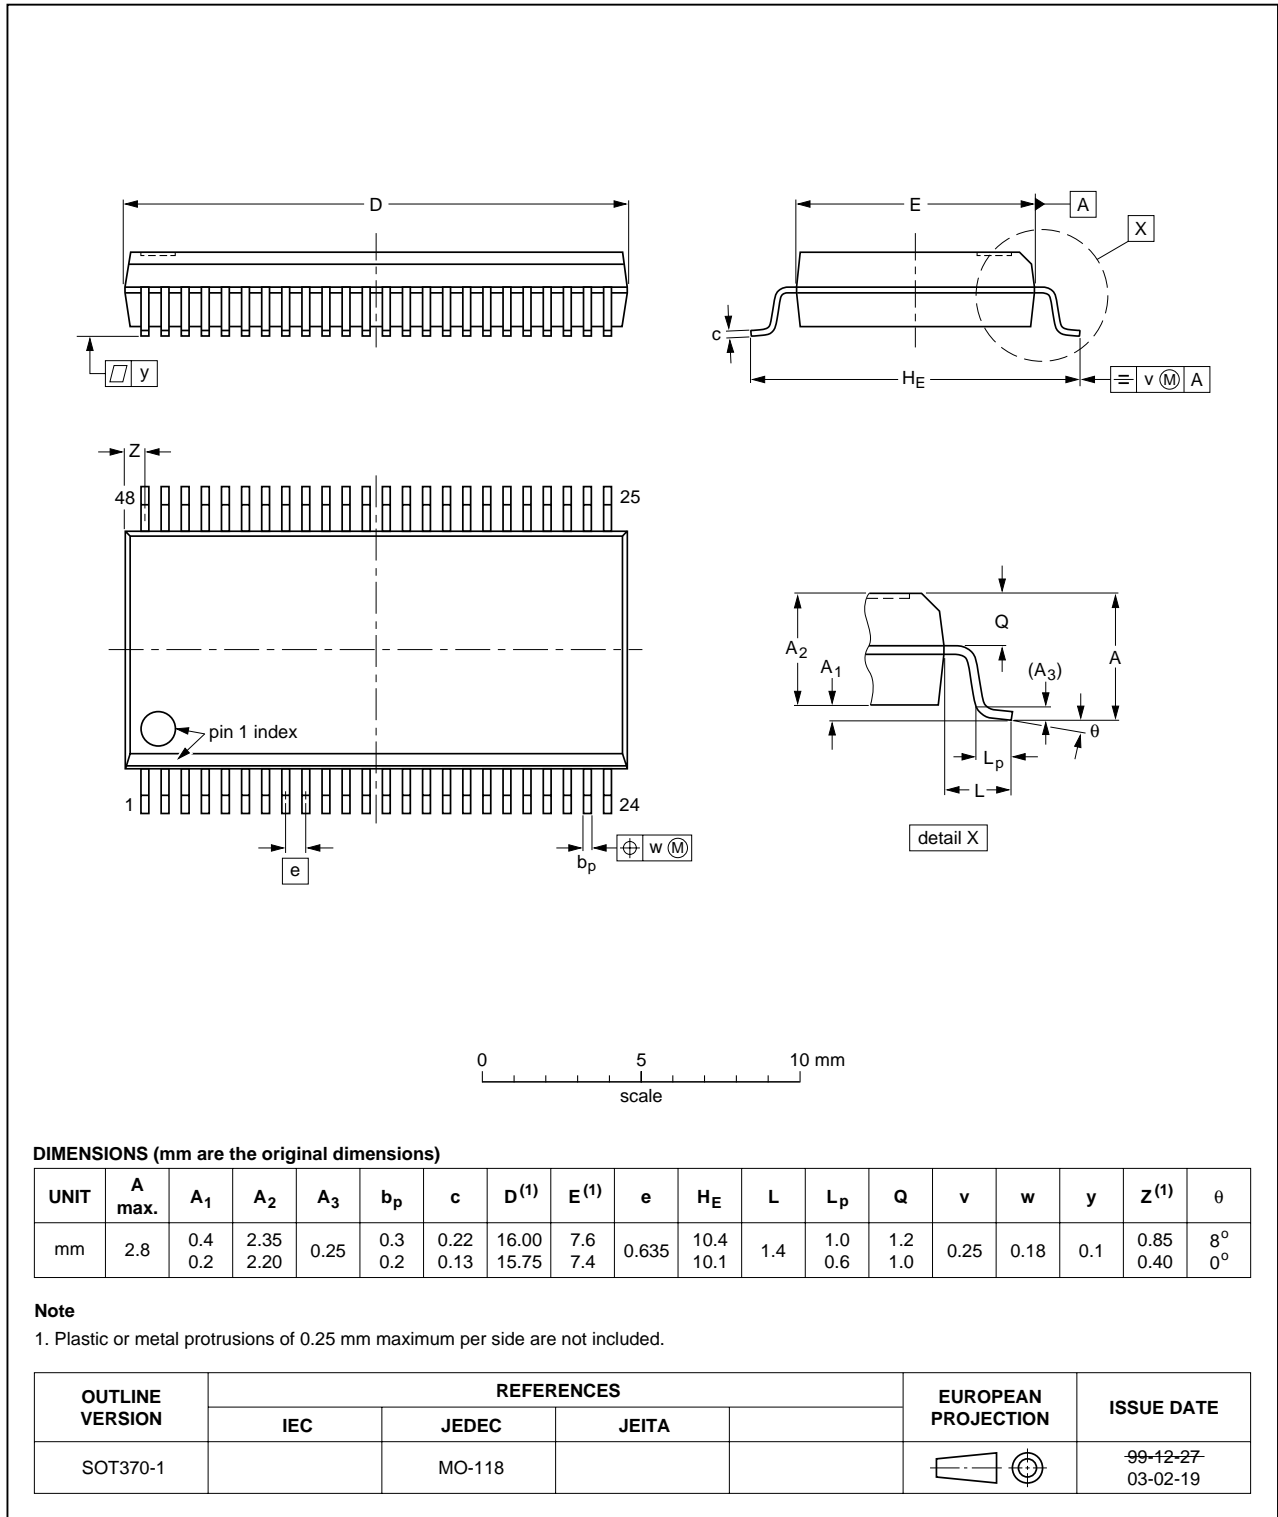

Fig 8. Package outline SOT370-1 (SSOP48)
**Table 8. Dynamic characteristics**Voltages are referenced to GND (ground = 0 V); for test circuit see Figure 8.
Voltages are referenced to GND (ground = 0 V); for test circuit see Figure 8.